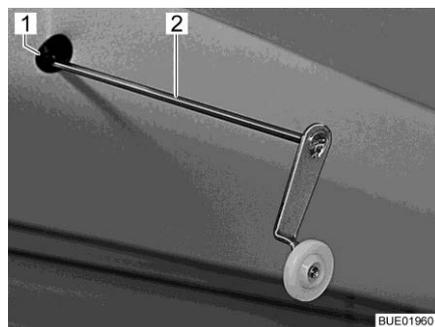

Fig. 140 Crank for emergency operation
- Insert the crank (Fig. 140,2) provided or an Allen wrench into the accommodation (Fig. 140,1) on the motor. The holder is in the cut-out in the surround at the top left of the pull-down bed.